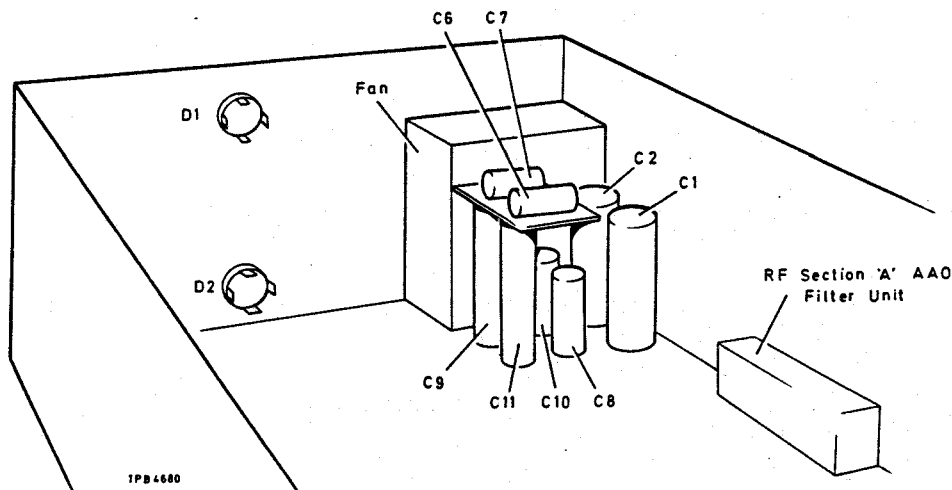

Fig. 6 Chassis components layout (A0)
17. Printed circuit board component layouts can be seen in Chap. 7, Servicing diagrams, pre-set and select-in-calibration (SIC) components are also identified there. It is possible that some SICs such as C49, AB2 are only fitted to optimize, improve or set up a working parameter such as the HF response during initial manufacture and alignment. If the component is not in circuit no attempt should be made to fit it unless a relevant re-alignment procedure shows that its inclusion is necessary. Board location is shown in Fig. 1 and significant components on A0 chassis and rear panel are shown in Fig. 6 below.